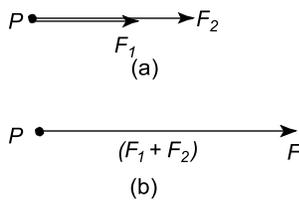

Figure 4.5
- (a) For forces acting in the same direction and having the same line of action, the single force having the same effect as both of the forces, called the **resultant force** or just the **resultant**, is the arithmetic sum of the separate forces. Forces of F_1 and F_2 acting at point P , as shown in Figure 4.5(a), have exactly the same effect on point P as force F shown in Figure 4.5(b), where $F = F_1 + F_2$ and acts in the same direction as F_1 and F_2 . Thus F is the resultant of F_1 and F_2